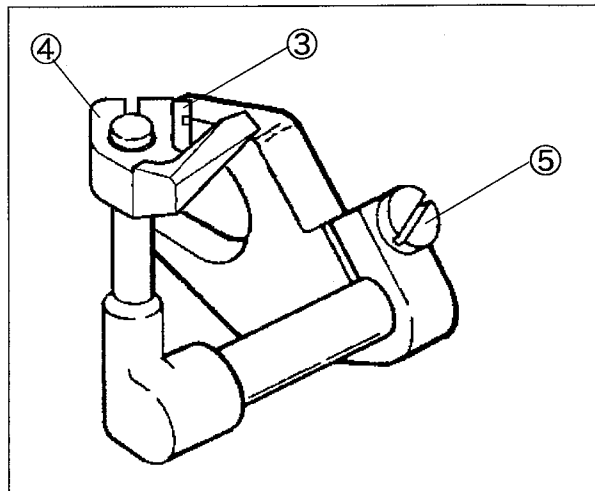
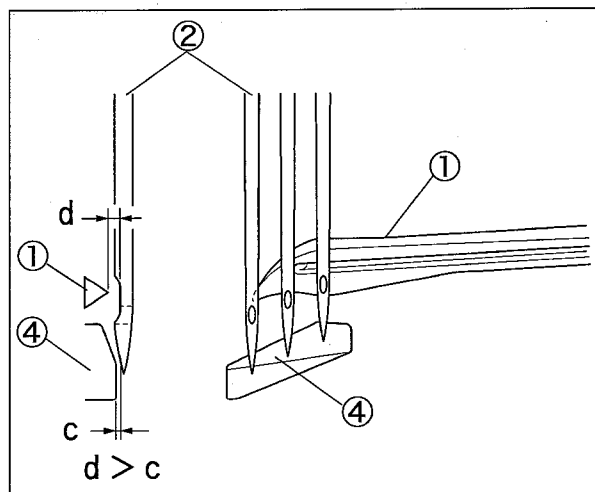

Fig. 6-22
Fig. 6-24
Loosen and adjust the screws ③ and ⑤ to make them meet the following three conditions. (Fig. 6-22)
- (1) When the looper ① moves from the right to the left, and the looper ① tip meets the right needle, let the needle guard(rear)④ push the right needle so that the clearance between the right needle and the looper ① is 0.
- (2) When the looper ① tip meets the middle needle, adjust the angle of the needle guard (rear)④ so that the clearance between the middle needle and the looper ① is 0.
- (3) When the looper ① tip meets the left needle ②, even if the left needle ② is pressed, the needle guard(rear)④ holds the left needle ② without touching the looper ① tip. (Fig. 6-24)